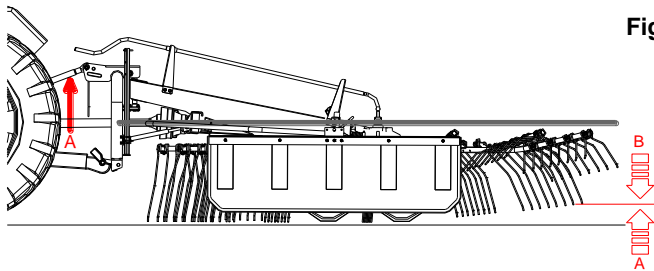

Fig.23
- Mounted type (fig.23):** to lower the tines and so reduce their distance from the ground, rotate counter-clockwise the appropriate handle (**B**), located nearby the third section, as indicated in the figure. If they touch the ground, they must be lifted by using the tractor hydraulic lift (**A**), activated by the appropriate lever located inside the cabin. **Note:** in theory, to lift the tines from the ground, the handle should rotate clockwise, but in practice, the weight of the rotary unit with arms does not allow this operation. Therefore, use the hydraulic lift.